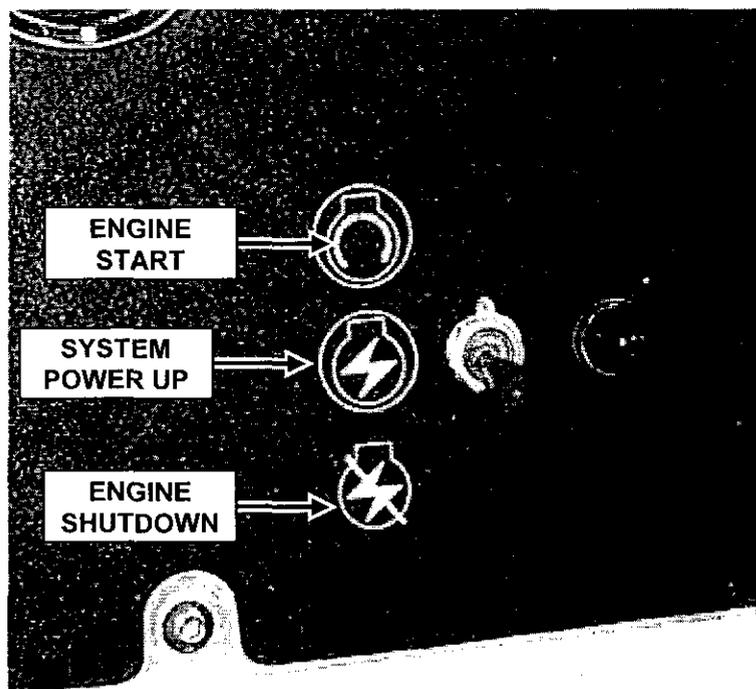

FIGURE 13
1. Completely raise the front leg tubes and lower the rear of the machine using the rear elevation controls to the desired cutting depth. Use the rear depth indicator scale (figure 13) to accurately judge depth.